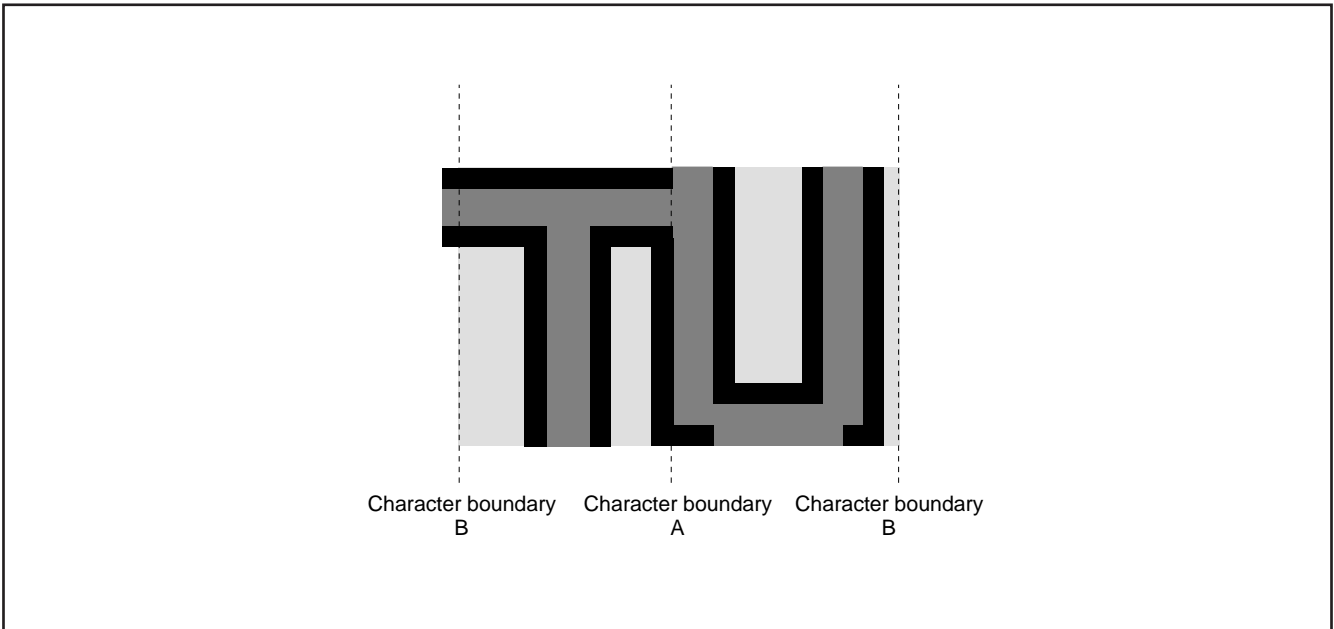

Fig. 12.11.35 Border Priority
**2:** When the border dot overlaps on the next character font, the character font has priority (refer to Figure 12.11.35 A). When the border dot overlaps on the next character back ground, the border has priority (refer to Figure 12.11.35 B).
**3:** The border in vertical out of character area is not displayed (refer to Figure 12.11.35).